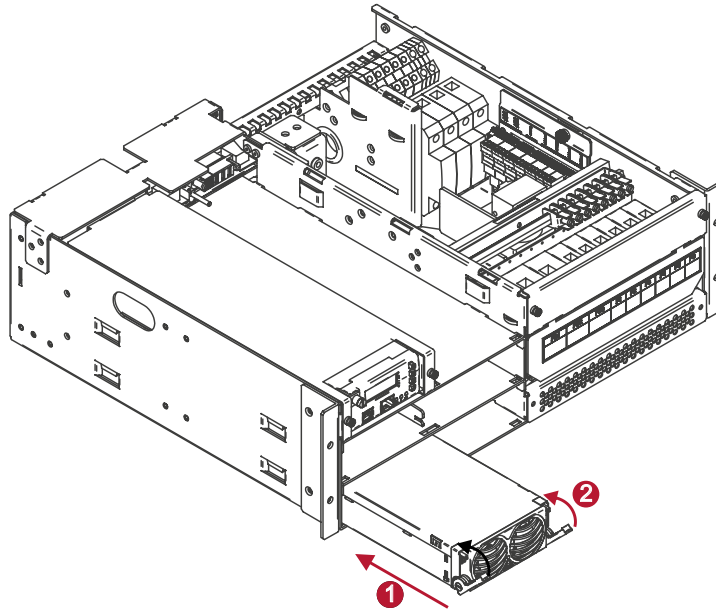

Figure 4-19 Rectifier Installation
2. Slide the rectifier module into the slot until it contacts the interface connection at the rear of the shelf, Figure 4-19 #1.
3. Fully insert the rectifier by pushing the handle towards the shelf. The rectifier handle will rise up and lock the rectifier into the position, Figure 4-19 #2.